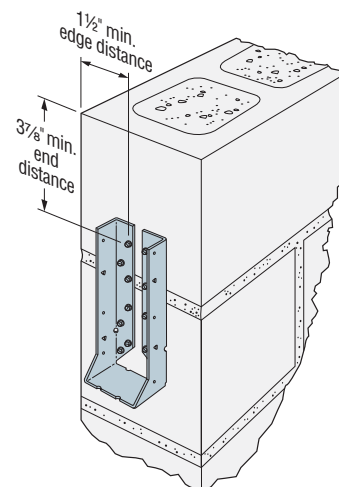

Figure 1 — HUC410 Installed on Masonry Block End Wall
- A minimum edge distance of $1\frac{1}{2}$ " and minimum end distance of $3\frac{7}{8}$ " is required as shown in Figure 1 for full uplift load.